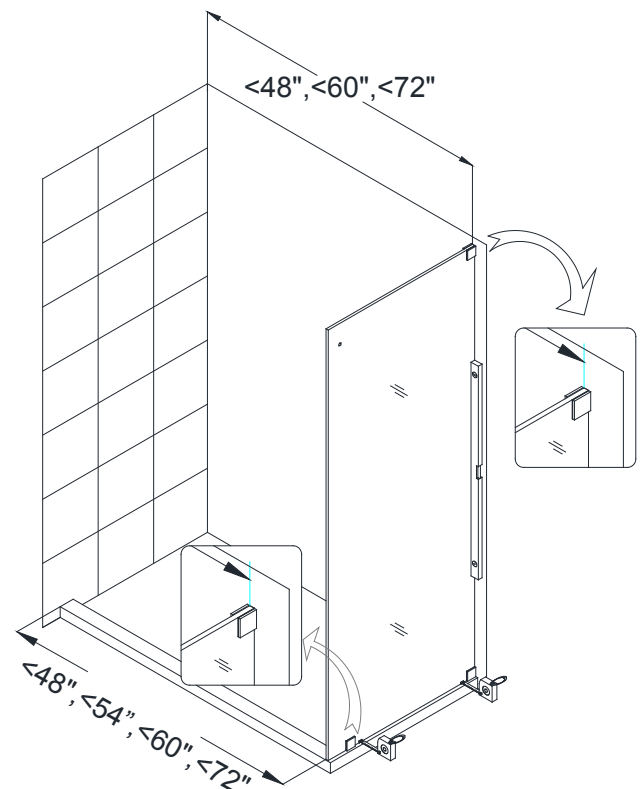

Fig 2
2. Place the **Return Panel (#27)** on the pre-installed shower base or threshold. Position the panel up against the wall and level it vertically (plumb). Make sure the **Return Panel (#27)** is aligned with the shower base or threshold and will create an opening that is within the model dimensions of the door section (as measured from the finished wall to the inside surface of the return panel glass). **(Fig 2)**